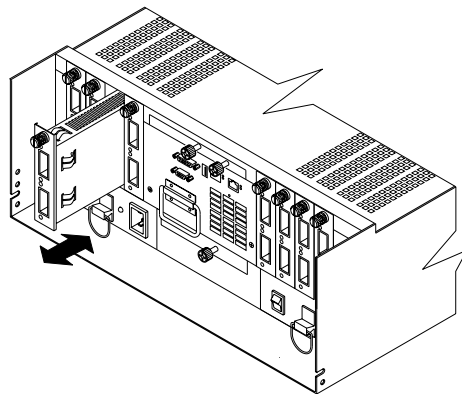

Figure 11. Removing and replacing the mini-hub
3 Remove the CRUs, using Figure 8 through Figure 11 as guides.
- 5 To install the mini-hubs in the back of the controller unit, reverse the instructions in Figure 11 on page 14.